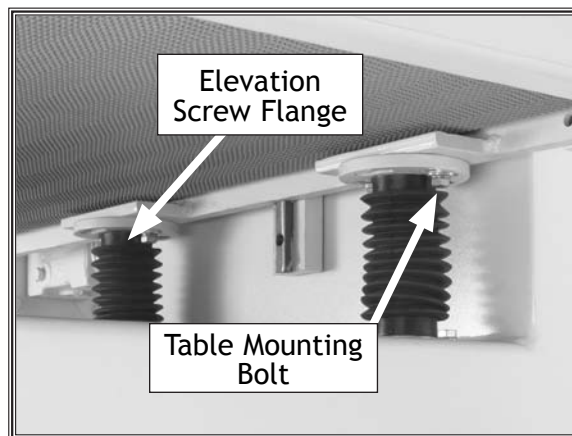

Figure 45. Table mounting bolts and elevation screw flange.
- For minor adjustment, loosen the table mounting bolts shown in **Figure 45** and rotate the elevation screw flange.